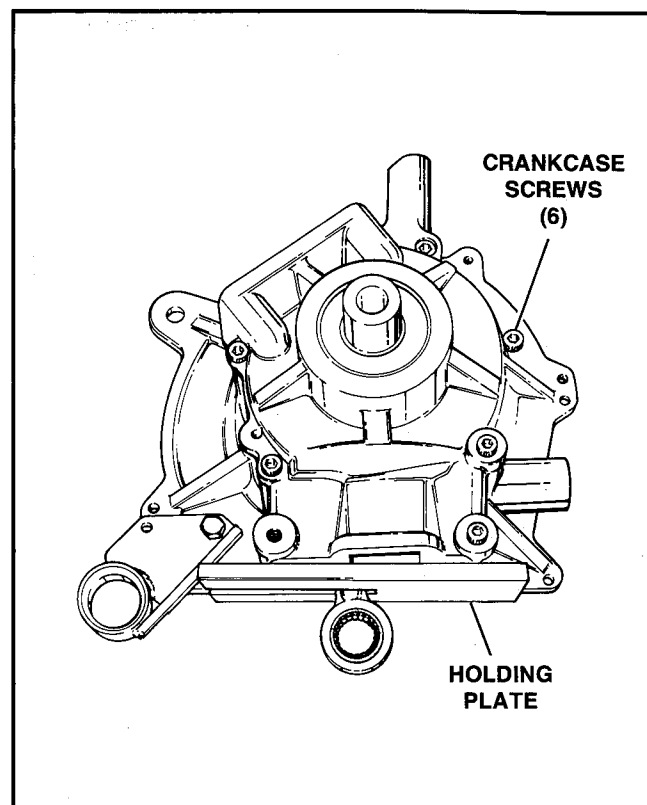

Figure 58 - Separate Crankcase Halves
- g. See Figure 58. Remove the crankcase screws (1). Tap lightly on the motor mount bosses and separate the crankcase halves slipping the crankshaft out of the transmission side of crankcase half.
- b. Place the crankcase halves on a press bed and press in bearings (4). Install internal retaining rings (1).
- d. Insert the crankshaft in the transmission side of case and gasket (8) into crankcase halves and install the crankcase screws (1), Figure 58. Tighten crankcase screw to 7-9 ft.-lbs. torque.